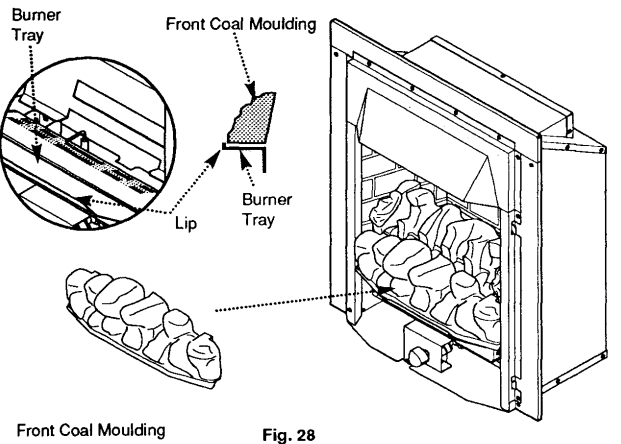

Fig. 28
3. Carefully position the front coal moulding on the front part of the burner tray with the front edge of the moulding behind the lip. The rear edge of the moulding should then rest on the front of the burner. The front and rear coal mouldings should be touching each other at both sides of the firebed (Fig. 28).